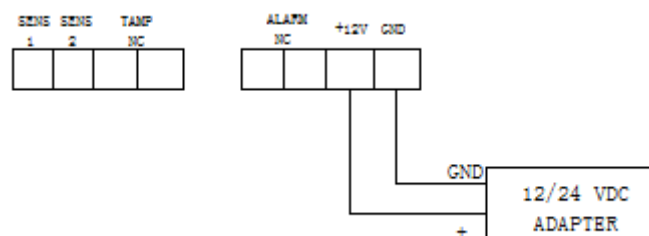
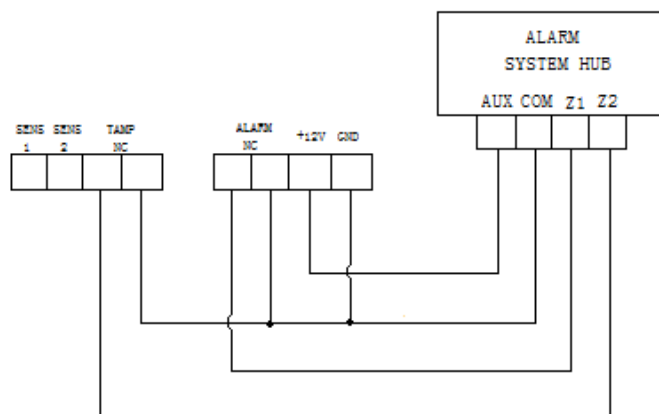

Fig.1- Power adapter connection
Fig.2-Alarm system hub connection
3. If the sensor is hard wired to power source, drill holes in sensor's casing connect wires observing Fig.1.Note the sensor may be connected to a wired alarm system (Fig.2) .
4. If the sensor is to be VDC powered, connect wires observing Fig.1.
There are two powering modes for the sensor. By default it's powered by a factory included battery. Alternatively it can work with a constant current, after connecting a 12/24 VDC power source to +12/24 and GND terminal (Fig.1). Powering mode configuration is carried out automatically, while sensor is being included into the Z-Wave network. When battery powered, a Flood Sensor communicates with the Z-Wave network main controller periodically. Detection alarms are sent immediately, but configuration parameters and association settings are sent periodically at specified wake up intervals, or at a manual wake up (triple click TMP). In DC powering mode, configuration and association parameters are sent when necessary, and additionally the flood sensor serves as a Z-Wave signal repeater.
- 3) Install the constant power connecting terminal, observing the Fig.1
- 4) Connect the constant current power to the terminal (12/24VDC) to +12 and GND terminals (Fig.1)